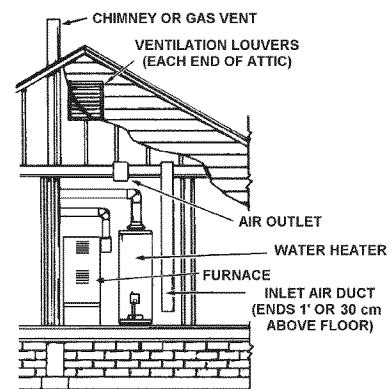

FIGURE 12.
- When directly communicating with the outdoors, each opening should have a minimum free area of 1 square inch per 4,000 Btu per hour (5.5 cm2/kW) of total input rating of all equipment in the enclosure, see Figure 12.
- When communicating with the outdoors through vertical ducts, each opening should have a minimum free area of 1 square inch per 4,000 BTU per hour (5.5 cm2/kW) of total input rating of all equipment in the enclosure, see Figure 12 on page 11.